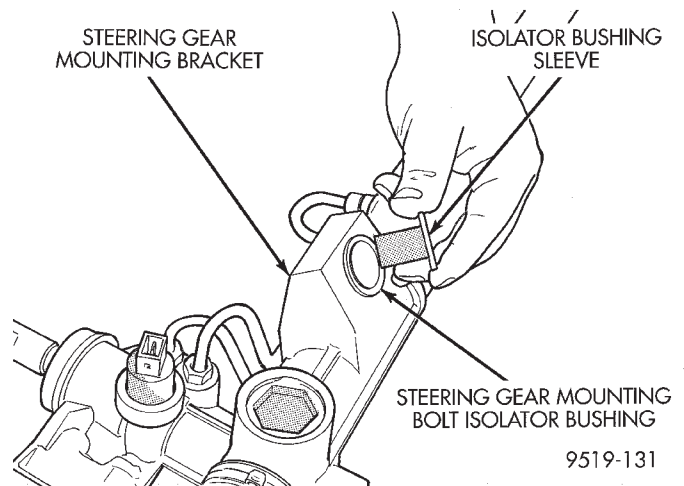

Fig. 26 Mounting Bolt Isolator Sleeve Installation
- (3) Install mounting bolt isolator bushing sleeve into isolator bushing by pressing the sleeve into the bushing by hand (Fig. 26).